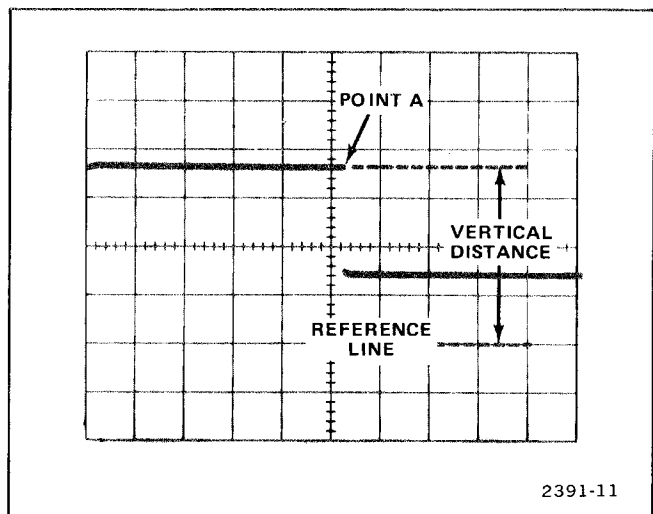

Figure 1-5. Measuring instantaneous voltage with respect to some reference.
7. Measure the distance in divisions between the reference line and the point on the waveform at which the dc level is to be measured. For example, in Figure 1-5 the measurement is between the reference line and point A.
EXAMPLE: Assume the vertical distance measured is 3.6 divisions (see Fig. 1-5) and the waveform is above the reference line using a 10X probe with a VOLTS/DIV setting of .5 V.